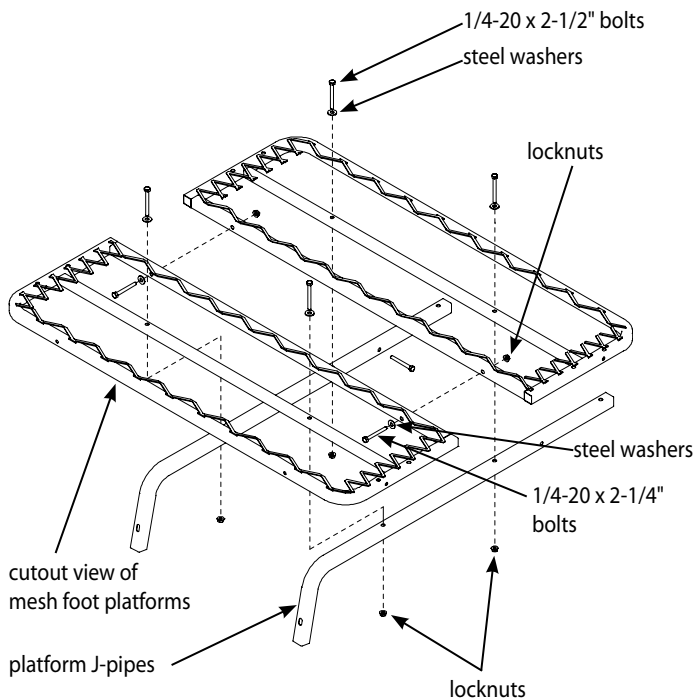

Figure 1
1. Attach two mesh foot platforms (2ML133) to the top (2) platform J-pipes (2ML129) using (4) provided 1/4-20 x 2-1/2" bolts, locknuts, and (4) steel washers. **SEE FIGURE 1. DO NOT tighten all nut & bolt assemblies completely!**
2. Bolt the two platform frames together using (2) provided 1/4-20 x 2-1/4" bolts, locknuts, and steel washers. **SEE FIGURE 1.**